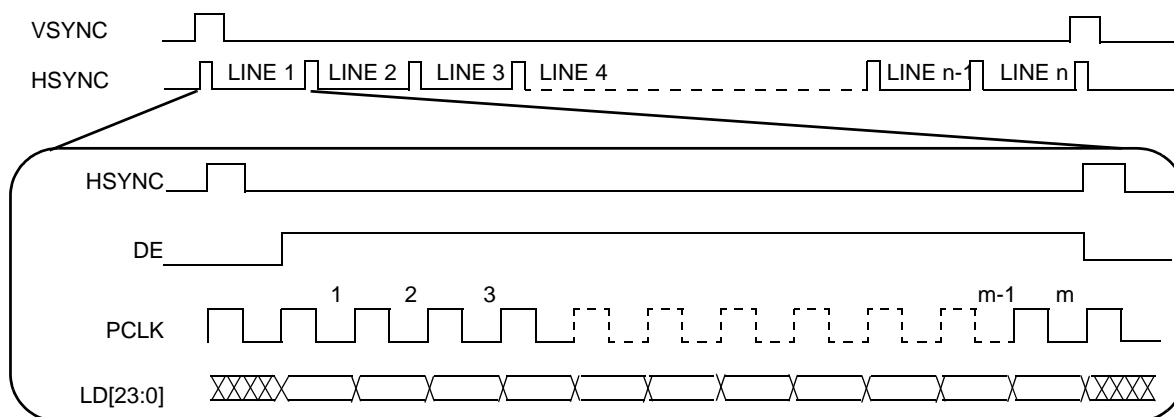

Figure 22. TFT LCD interface timing overview¹
Figure 22 depicts the LCD interface timing for a generic active matrix color TFT panel. In this figure signals are shown with positive polarity. The sequence of events for active matrix interface timing is:
1. In Figure 22, the “LD[23:0]” signal is “line data,” an aggregation of the DCU's RGB signals—R[0:7], G[0:7] and B[0:7].